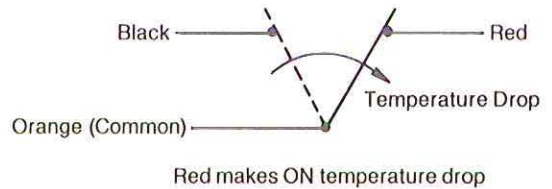

Figure 2. TC-114
2. Make the electrical connections to the thermostat as required by your application. Refer to the wiring figure 1 for TA-121 and figure 2 for TC-114.